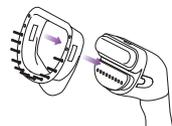

Fig. 8
- 3 Adjust the garment clip bar/ down to clip the bottom of the garment for extra support. (fig. 8)
- 5 Attach the bristle brush frame to the fabric steamer nozzle. Make sure that the small steam bonnet is attached. (Fig. 8)